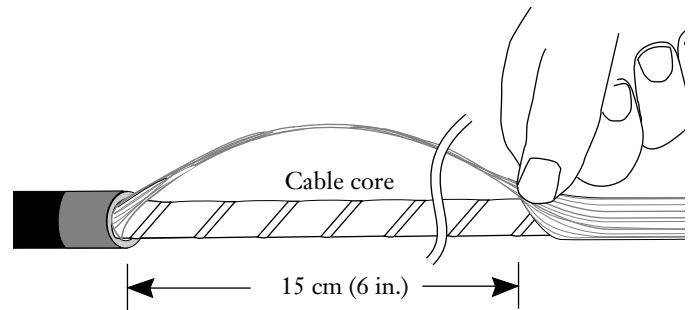

Figure 23
**7.1** Starting near the tape mark, pull the yarn away from the cable core until the core is exposed for a length of 15 cm (6 in.) (Figure 23).